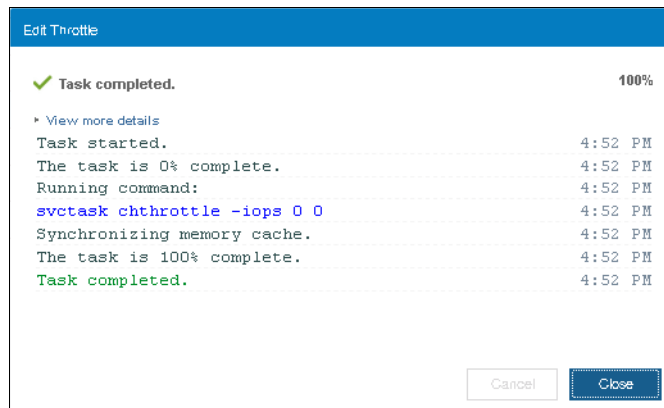

Figure 6-70 Volume throttle removal task completed
3. A task completion window will be shown as in Figure 6-70